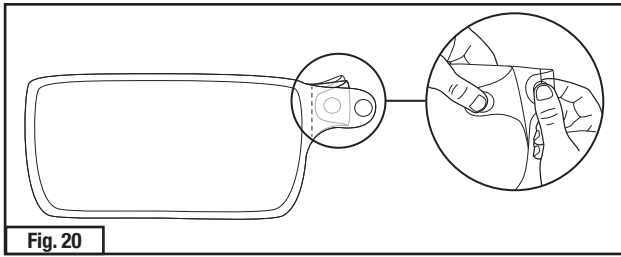

Fig. 20
**NOTE:** To help facilitate removal of each individual layer of the peel-off stack in use, users may want to fold the tabs on the second, third, and fourth peel-off in the stack according to Fig. 20. Leaving the tab on the first (top) peel-off unfolded, fold the tab on the second peel-off forward and tuck it behind the previous tab. Repeat with the third and fourth peel-off to create a stack of folded tabs. Remove each layer by grasping the tab and pulling the layer off.